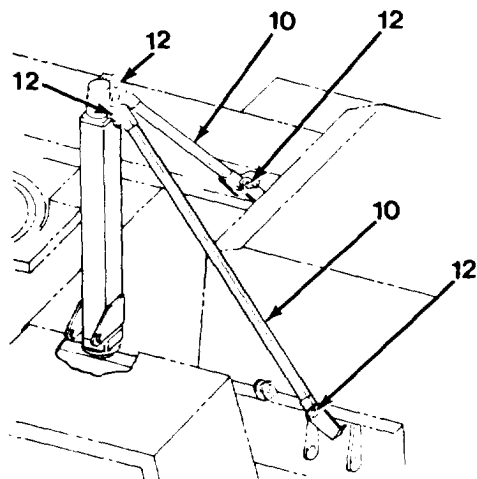

Figure 5-11A. *Installing the Truss Rods*
- c. Remove two truss rods (10), adjustable truss rod (11) and six pins (12) from storage location A (Figure 5-11) on right side of upperstructure. Install two truss rods (10) to top of carrier frame, one on left side, behind cab, and the remaining one on right side of cab. Install four pins (12) in connecting points (Figure 5-11A).